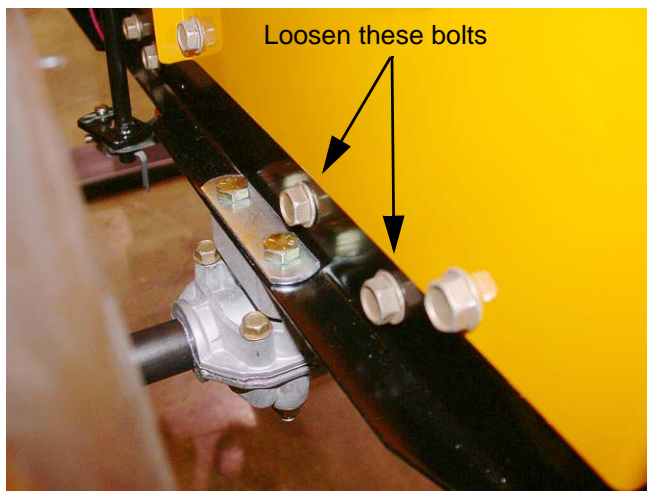

Figure 17.7
- 17.7. Loosen but do not remove the bracket that supports the variable speed pulley using a 1/2" wrench. See Figure 17.7.